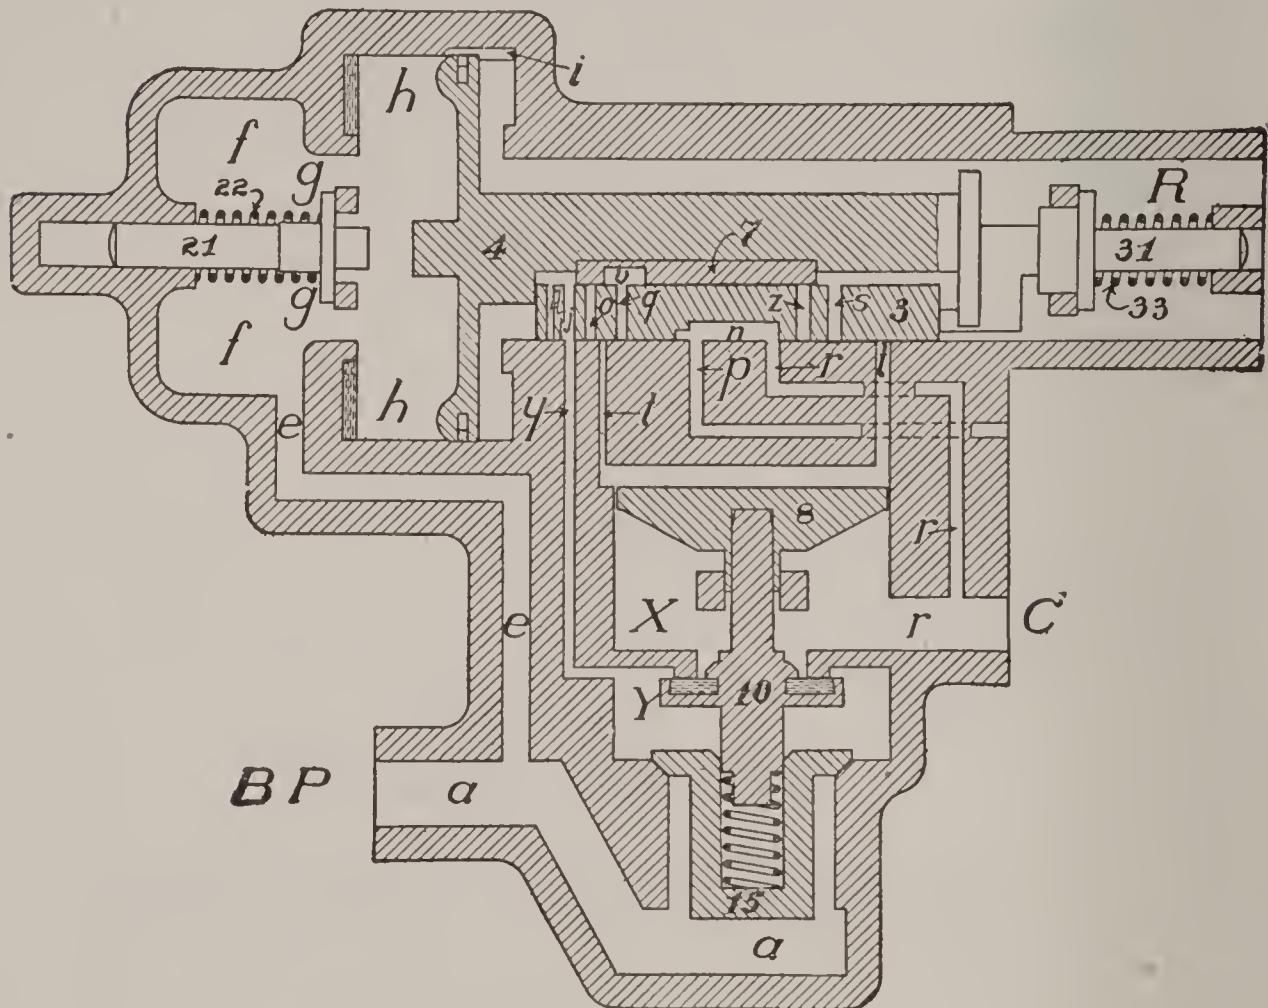

Fig. 8.
and would not be seen when looking at the device from the point of view taken. Some examples of this are shown in Fig. 8.
**Ports.** Port *t* connects the slide-valve seat with the chamber above emergency piston 8.. Port *p* is the exhaust port to the atmosphere. Port *j* in the slide-valve begins at the face as shown by the top view (Fig. 8) and passes around other ports in the valve to a smaller opening in the top. (Port *j* does not exist in the K-1 triple valve, as will be explained later.) Port *o* is similarly arranged, except that the openings in the top
**Full Release and Charging Position.** Fig. 8 is a diagrammatic view of the triple valve in this position. Air from the brake pipe flows through passage *a* to *c* and cylinder cap *f*, and ports *g* to chamber *h*; thence through feed groove *i*, now open, to chamber *R* above the slide-valve, which is always in free communication with the auxiliary reservoir. The feed groove is of the same dimension as that of the old standard H-1 triple valve, which is designated to properly charge the auxiliary reservoir of an eight-inch brake cylinder and prevent any appreciable amount of air from feeding back into the brake pipe from the auxiliary reservoir during an application. For this reason the feed groove of the K-2 triple valve is made the same size as the K-1, so that it is necessary in the K-2 triple to increase the charging port area, through which the air can feed into the auxiliary reservoir sufficiently to enable it to handle the greater volume of the auxiliary reservoir of a ten-inch brake cylinder. In order to do this, the small port *j* is added
example, when the car is near the rear of the train, the triple valve parts will remain in this position, as shown in Fig. 8, the brakes will release and the auxiliary reservoirs recharge as described under "Full Release and Charging." If, however, the triple valve is near the head of the train and the brake pipe pres-
As the auxiliary reservoir pressure rises and the pressures on the two sides of piston 4 become nearly equal, retarding device spring 31 forces the piston, slide-valve, graduating valve and retarding device stem back to the full release position, shown in Fig 8, when the remainder of the release and recharging will take place as previously described under "Full Release and Charging."